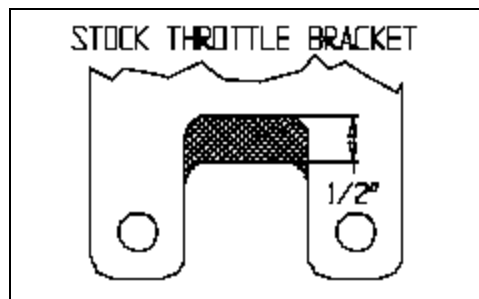

Figure 2
- THROTTLE BRACKETS: Due to the design of Performer manifolds, the throttle and kickdown bracket on some vehicles may require modification to fit. See figure 2 for guidelines or purchase our #8036 (Gold Cad plate) or our #8030 (chrome) throttle, cruise, and kickdown linkage bracket.